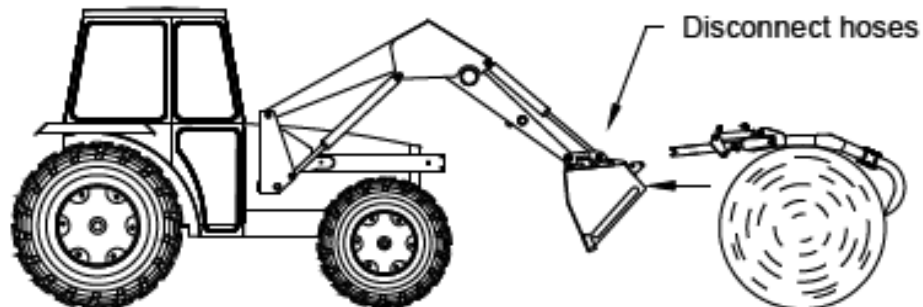

Figure 3
4. Back out slowly. Grapple will slide out of mount bracket weldments (Figure 3.)